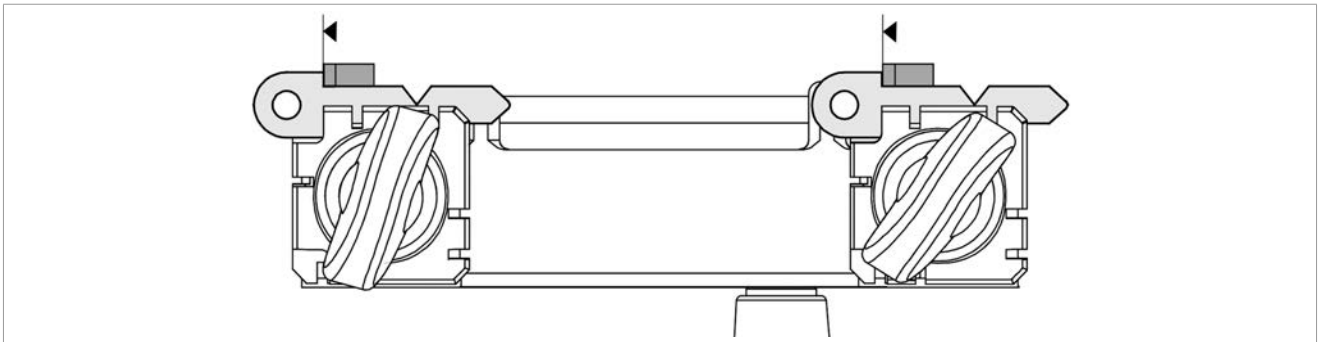

Fig. 15
- 2) Place the adjustment keys (provided) on the clamps (Fig. 15).
- 4) Turn the calibration rod towards the operator so that the gauges (Q1) into contact with the adjusting plates Fig. 15).